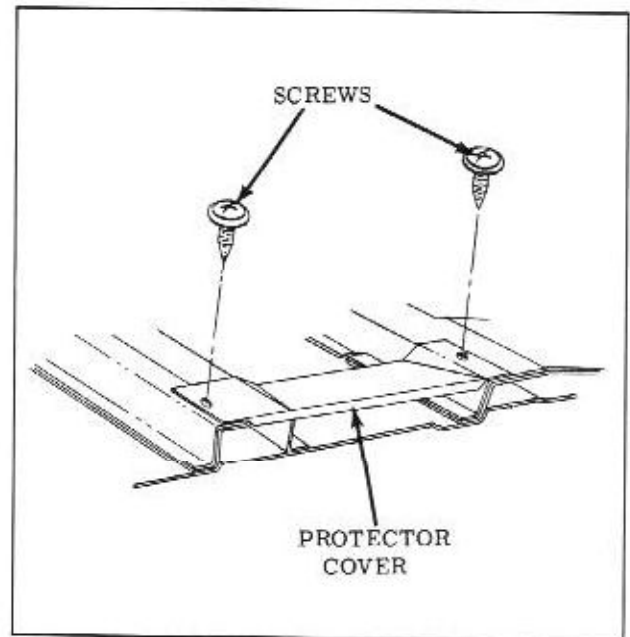

Fig. 15-63 Front Seat Side Protector Cover
2. Remove screws shown in Fig. 15-63, securing cover to floor pan and remove cover.